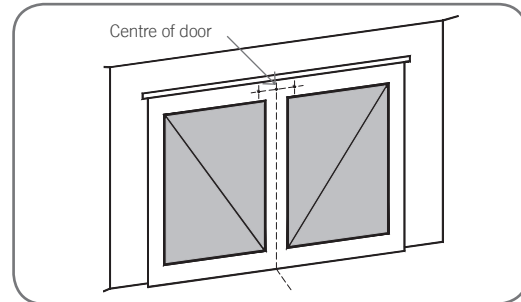

Fig. 15
- Draw two lines 21.5mm either side of this (Fig. 15).